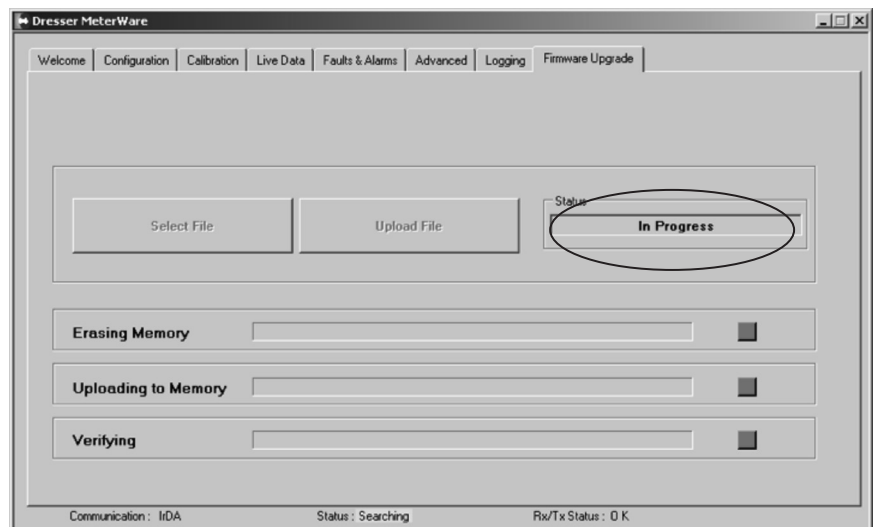

Figure 12.6 - MeterWare software showing In Progress status
- In the **Status** box on the Firmware Upgrade screen, the message **In Progress** will appear. Refer to Figure 12.6.